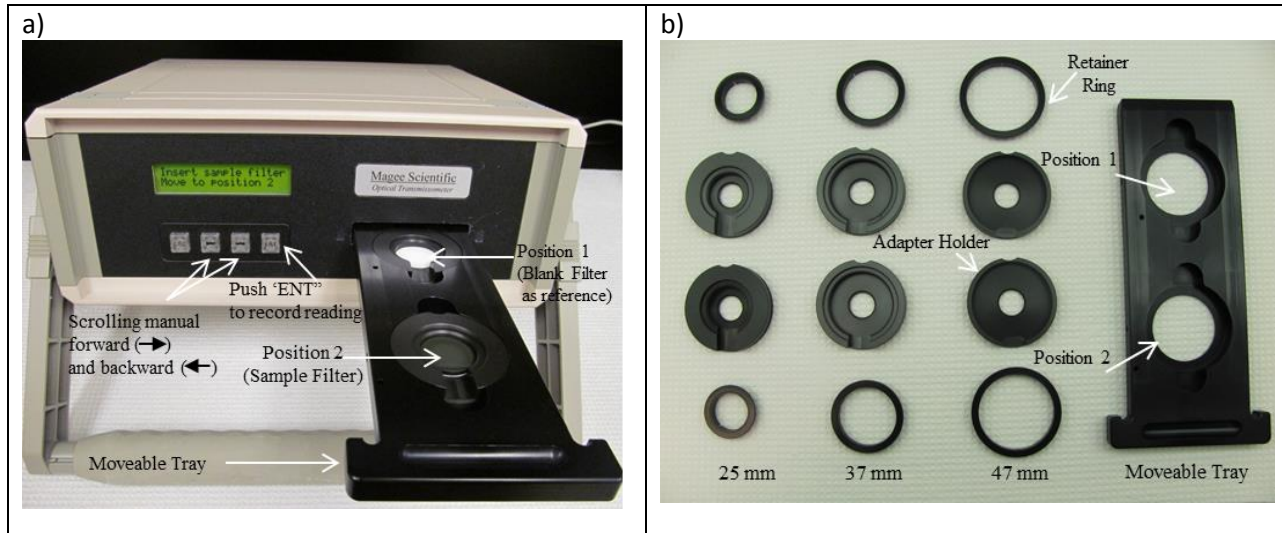
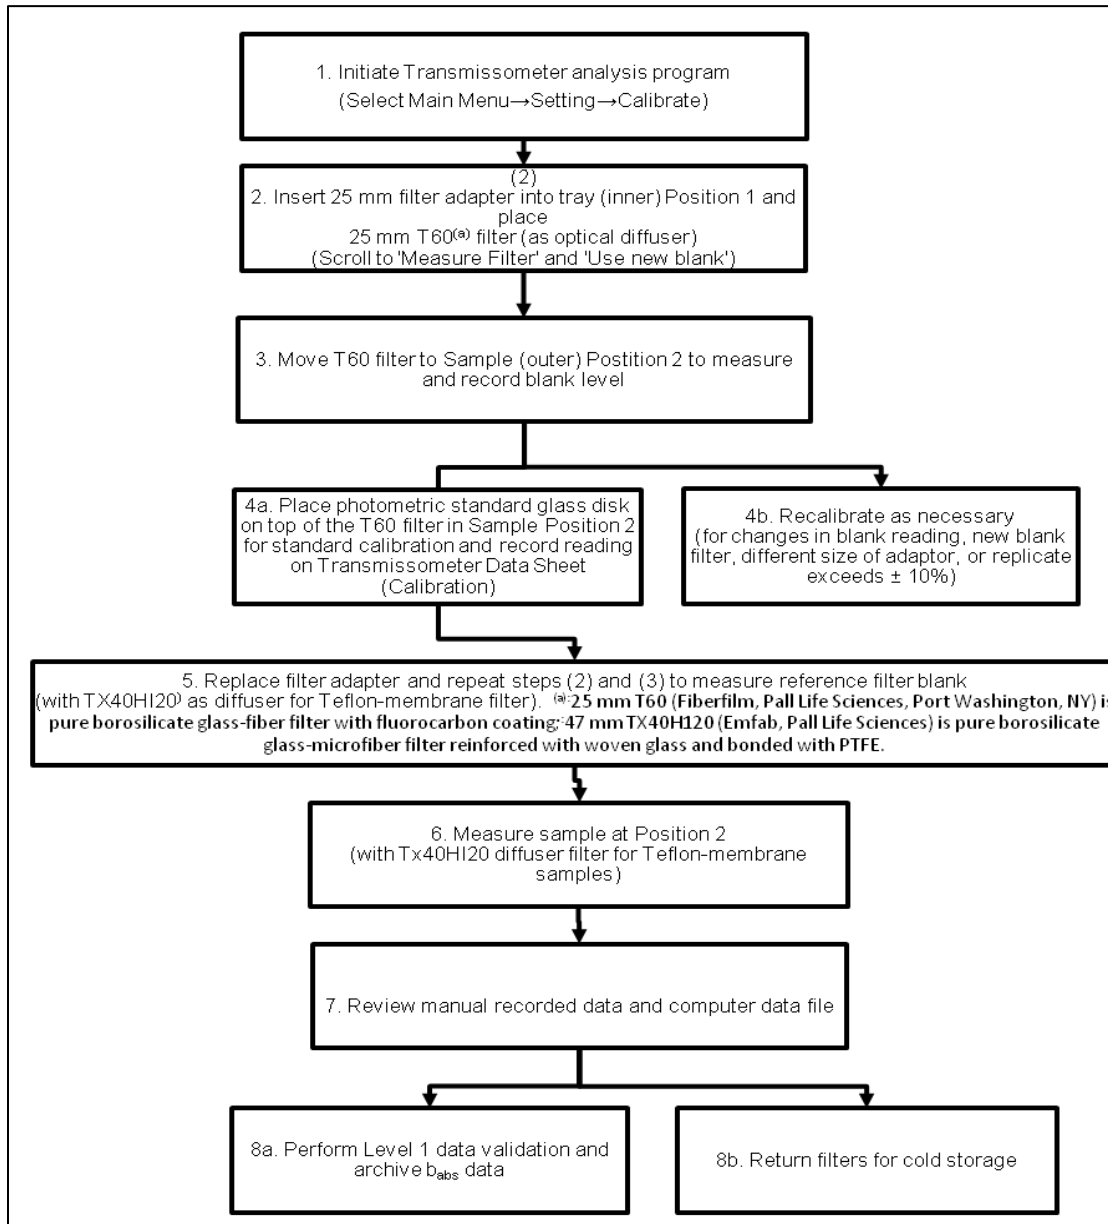

Figure 1. Magee Scientific SootScan™ Model OT21 Transmissometer (a) and Filter Holder Assembly (b)
Figure 2. Flow diagram for light absorption (b_{abs}) of $PM_{2.5}$ filter samples by Optical Transmissometer
PM_{2.5} b_{abs} will be measured by a dual-wavelength optical transmissometer (SootScan™ Model OT21). The OT21 shown in Figure 1, is equipped with a movable tray with two filter holder slots. Light transmittance is simultaneously measured for reference (blank) filter (inner tray Position 1) and sample (outer tray Position 2). An instrument performance check is performed at the beginning and end of each analytical session with a set of certified photometric standard glass disks. Each batch of 10 samples includes a QC check of one photometric standard. Replicate analyses are performed on 10% of the samples. See Section 6.8 for Quality Control (QC) requirements. A flow diagram of optical absorption calibration and measurement is shown in Figure 2. A standard glass disk is placed on top of a T60 diffuser filter for calibration to improve transmission sensitivity. A Teflon-membrane blank or sample is also placed on top of a diffuser filter for each analyses.
A general overview of the steps described in this SOP is depicted in Figure 2. Deviations from the analytical method described in this SOP are not permitted.